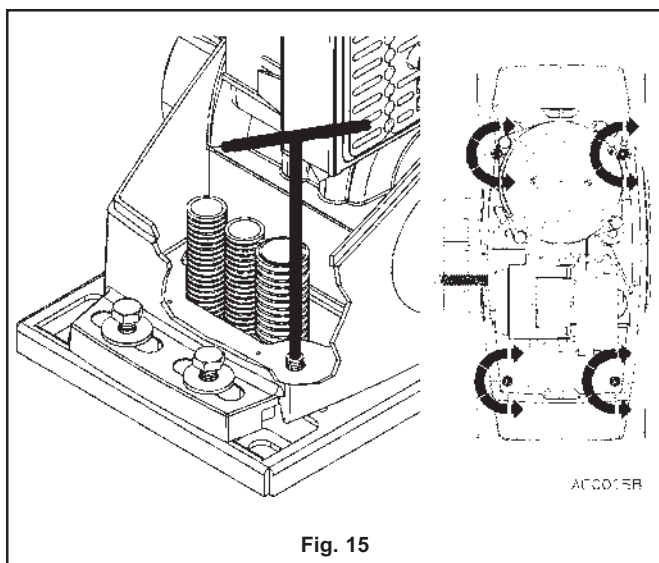
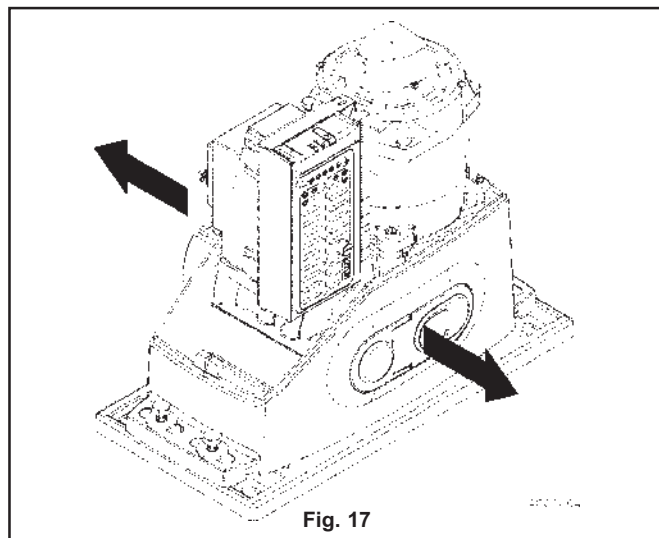
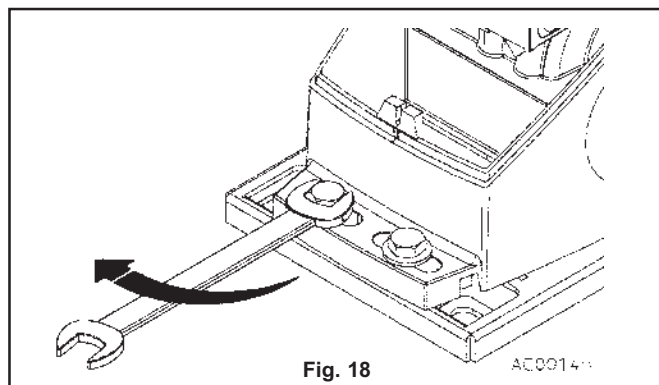
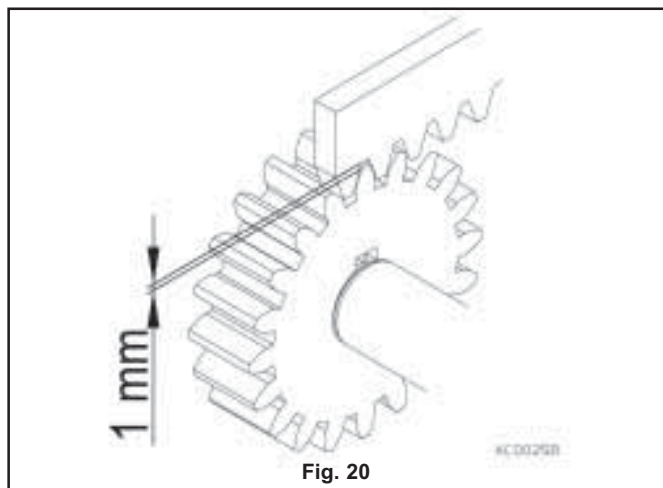

Fig. 15
Fig. 17
Fig. 18
Fig. 20
- b) Unscrew the 4 dowels (fig. 15) until they protrude from the operator's rest plane by about 5mm.
- d) Make the vertical adjustments using the 4 dowels (fig. 15) and a spirit level.
e) Make the horizontal adjustment and ensure that the operator is perfectly parallel to the gate, by shifting it sideways as indicated in fig. 17.
- f) Once the operator has been positioned correctly, fix it in place by tightening the four M10 screws using a socket wrench or spanner (fig. 18). Replace the clamping feet covers.
- e) Ensure that there is a gap of about 1mm between the pinion and the rack (fig. 20) in order to avoid forcing the pinion and therefore also the operator.
- i) If the distance between rack and pinion is not respected (gap of approximately 1mm, fig. 20), loosen the M10 clamping screws by 2/3 turns (fig. 18) and unscrew the dowels (fig. 15) until the correct distance is obtained. If necessary adjust the centring of the pinion in relation to the rack axis: move the operator towards or away from the gate making it run on the base plate (fig. 17).
- j) Once the exact position has been identified, retighten the four M10 screws (fig. 18).
- d1) In particular, ensure that there is a 1 mm gap between the pinion and the rack (fig. 20) to prevent forcing the pinion and the operator.